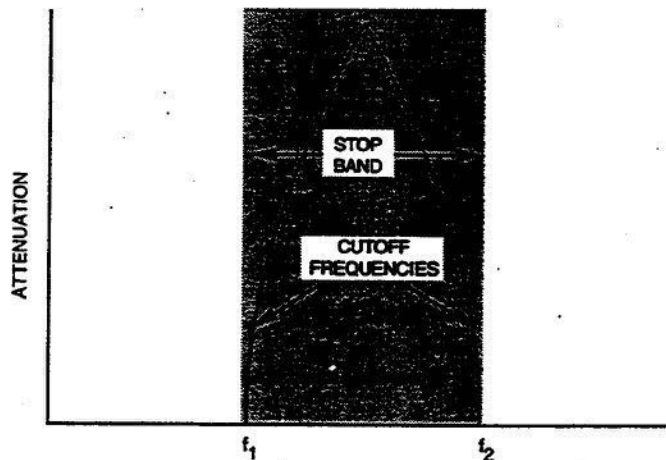

Figure 3-32. Band-reject filter characteristics.
**Band-reject filters.** A *band-reject* filter attenuates all frequencies within a specified band, but passes all frequencies above or below that band. The cutoff frequencies in figure 3-32 ( $f_1$  and  $f_2$ ) represent the attenuation region for a band-reject filter. If we assume that it is desired to reject all frequencies from 3,000 to 6,000 Hz, this would be the frequency range represented by  $f_1$  and  $f_2$ . Band-reject filters are often referred to as band-stop, band-elimination, or wave-trap filters.